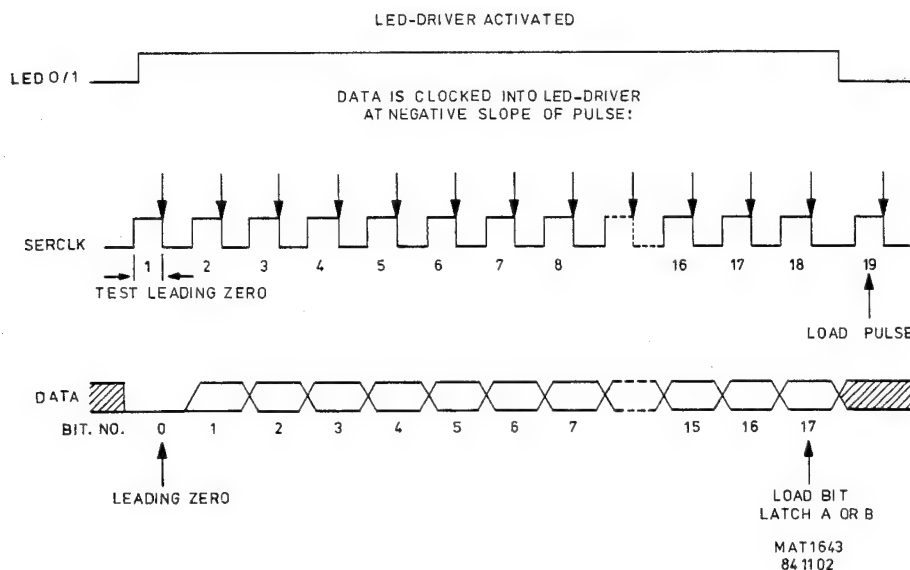

Fig.5.1. Time relation of input signals of LED drivers
- input pin 8 is the data input. The clock input receives a row of pulses as shown in Fig. 5.1. In parallel with the clock pulses, a row of data-bits is applied to the data input. The first bit is a logic low start signal; the following 16 bits are loaded into one of the two registers, depending on the 18th data bit (low for the first register, high for the second).